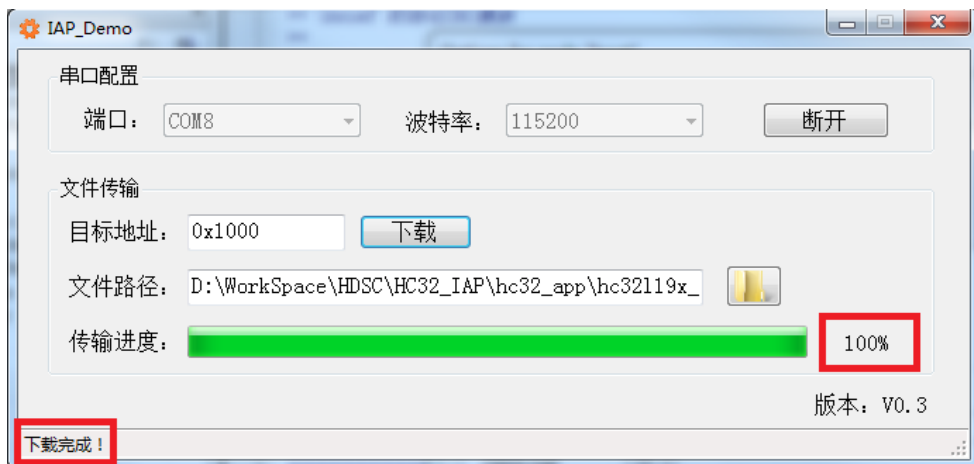

Figure 8 Firmware download
7) Select the target address as 0x1000, click Download, if the progress bar shows 100% transfer, and the lower left corner of the software interface shows Download Complete, as shown in Figure 8, it means that the firmware has been successfully upgraded.